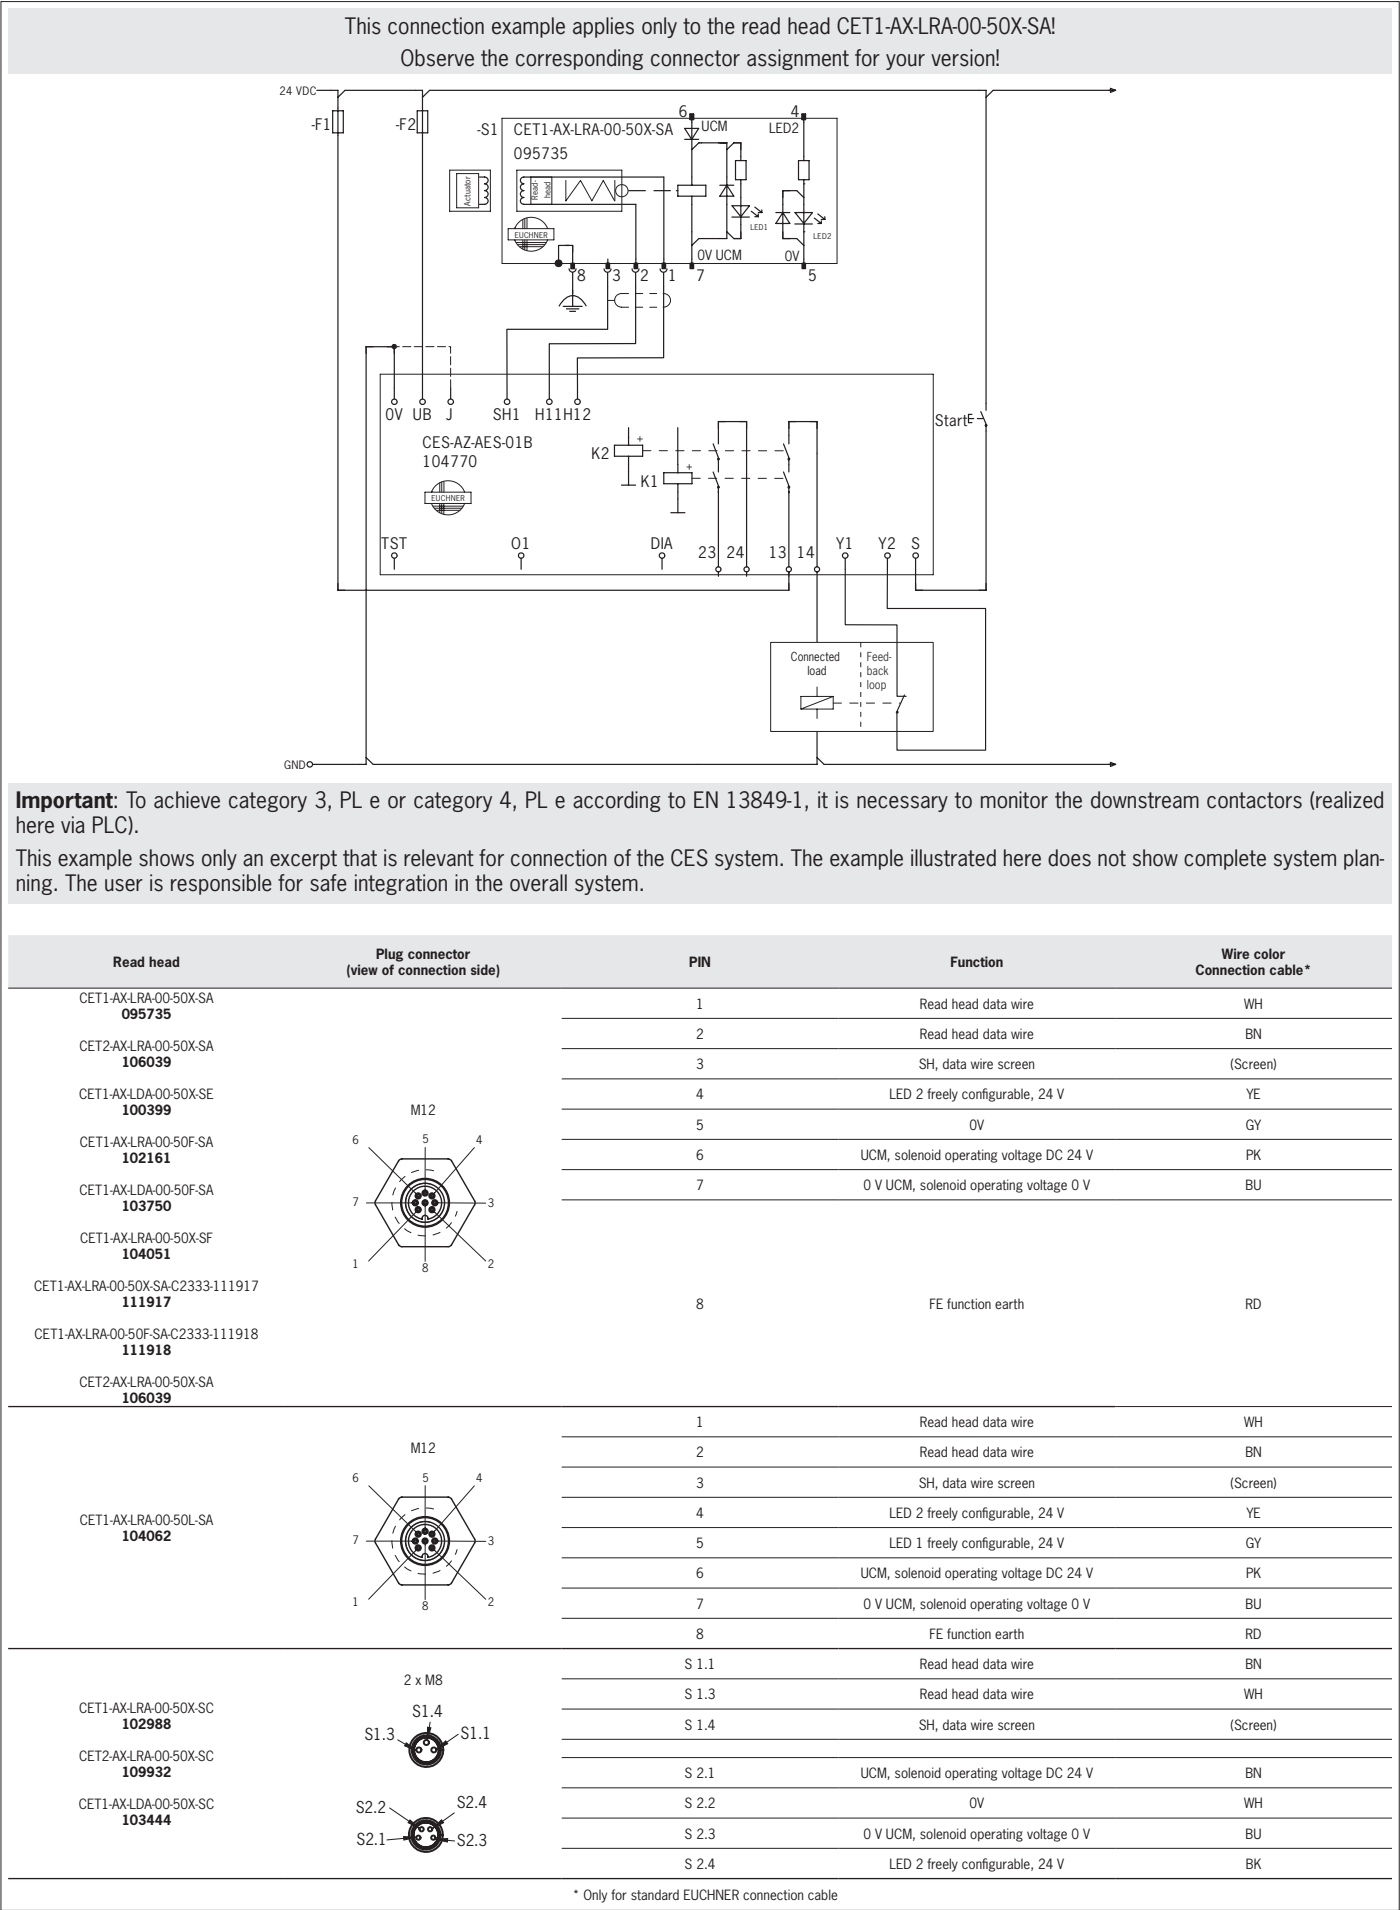

Figure 4: Connection example and terminal assignment
- ▶ For terminal assignment see Figure 4.
Connection	See Figure 4